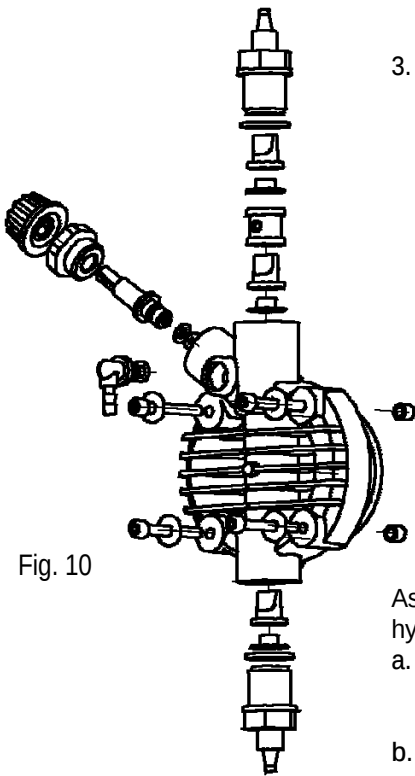

Fig. 10
2. Check pump operation, screw seals and gaskets every 6 months and for very aggressive liquids make more frequent checks and in particular monitor the concentration of the plant additive; a reduction in additive concentration could be determined by wear on the valves (in this case substitute the valves being careful to reassemble them as in Fig. 10) or by clogging of the filter which must be cleaned as follows.
To perform this operation when the equipment is not fixed to the plant, the pump can be pulsed for a few seconds (15-30) keeping it overturned and without piping connected to the fittings. If this is not possible disassemble and reassemble the pump body (Fig. 10), using the four fixing screws.
As the system is quite robust, normally there are no mechanical problems. Occasionally there might be a loss of liquid from the nipple because the tube nut has become loose, or more simply the outlet piping has broken. It is rare to detect losses due to a broken membrane or due to wear on the membrane seal gasket. In this remote case, the components must be substituted by removing the four screws on the pump body (Fig. 10), when the screws are reassembled tighten them equally to a maximum tightening torque of 180÷200 Nxcn. Once the liquid loss is repaired, clean the dosing pump of any additive residues which could attack the pump body.
- a. Disassemble the suction and outlet valves, clean them and place them back to the same position (Fig. 10).